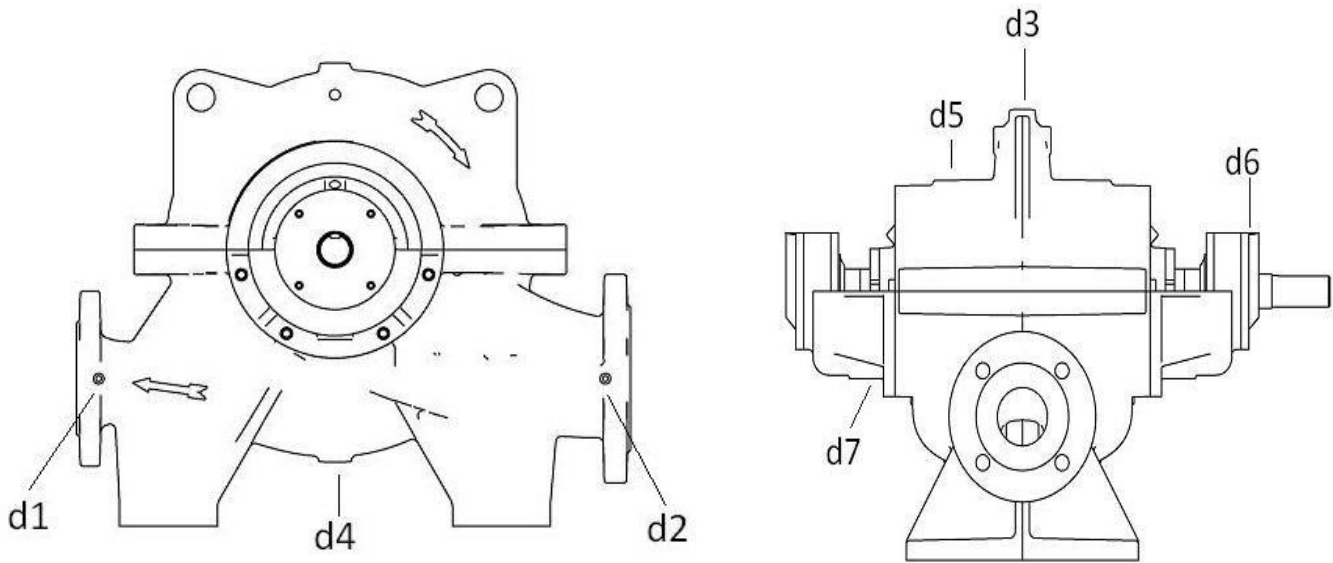

Figure 6
- There are connection places in every pump for discharging pump and removing leakages in seal bed. (Figure 6). Those connections can be connected to discharge tank by means of pipes if requested. There should be isolation valve in pipe which is used for pump discharging and this valve and pipe should be suitable with maximum operational pressure of pump.